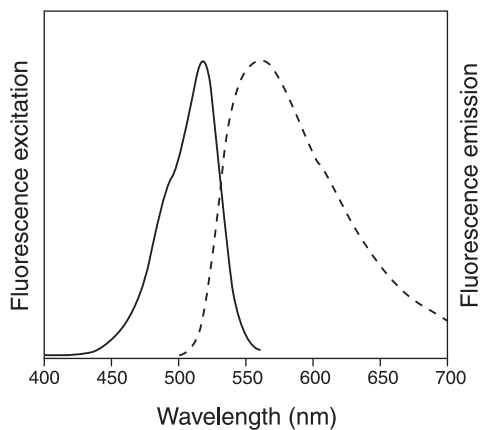

Figure 3. Fluorescence excitation and emission spectra for the Vybrant® DyeCycle™ Orange stain bound to DNA in TBE, pH 8.3.
- 1.5 For cells stained with Vybrant® DyeCycle™ Green stain, analyze samples on flow cytometer using 488 nm excitation and green emission (Figure 3).
Figure 3. Histogram of live Jurkat cells stained with Vybrant® DyeCycle™ Green stain showing DNA content distribution. G0/G1 and G2/M phase histogram peaks are separated by the S-phase distribution. Excitation at 488 nm was used with a 530/30 bandpass filter.